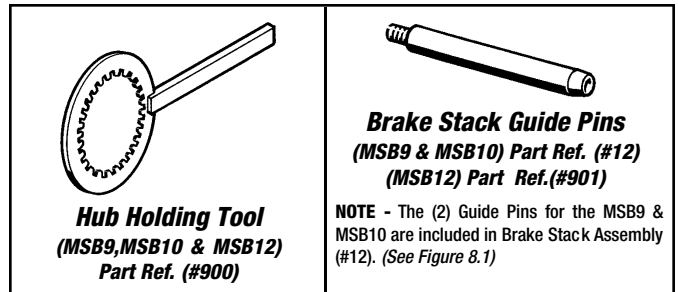

Figure 3.1 - Special Assembly Tools
(2) Guide Pins (#12) are required for the MSB9 & MSB10 while (4) Guide Pins (#901) are required for the MSB12 to install the Brake Stack. A Hub Holding Tool (#900) is required to torque the Collet Locking Bolt. The Tools and Part Ref. Numbers are shown in the following Figure 3.1. These tools are supplied but spares or replacement tools can be ordered from Force Control with their given part number. (See Figures 8.1 and 8.2)